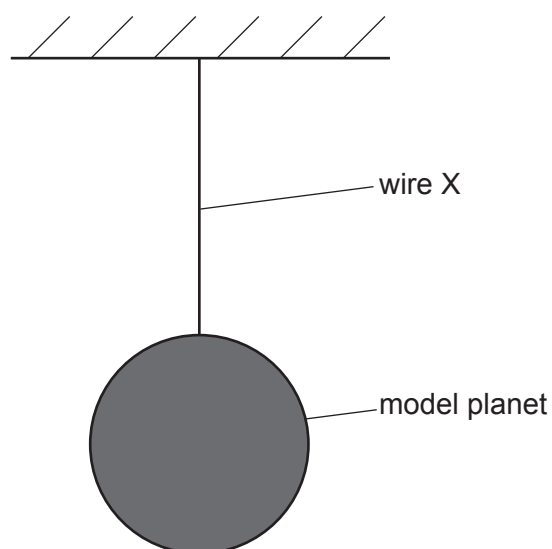

Fig. 3.1 (not to scale)
- 3 A thin metal wire X, of diameter $1.2 \times 10^{-3} \text{ m}$, is used to suspend a model planet, as shown in Fig. 3.1.